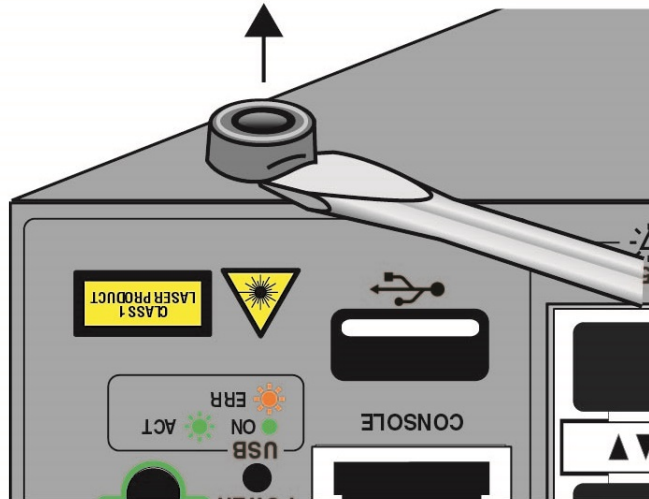

Figure 87. Removing the Bumper Feet
2. Use a small flat-head screwdriver to gently pry the feet from the bottom of the switch. Refer to Figure 87.